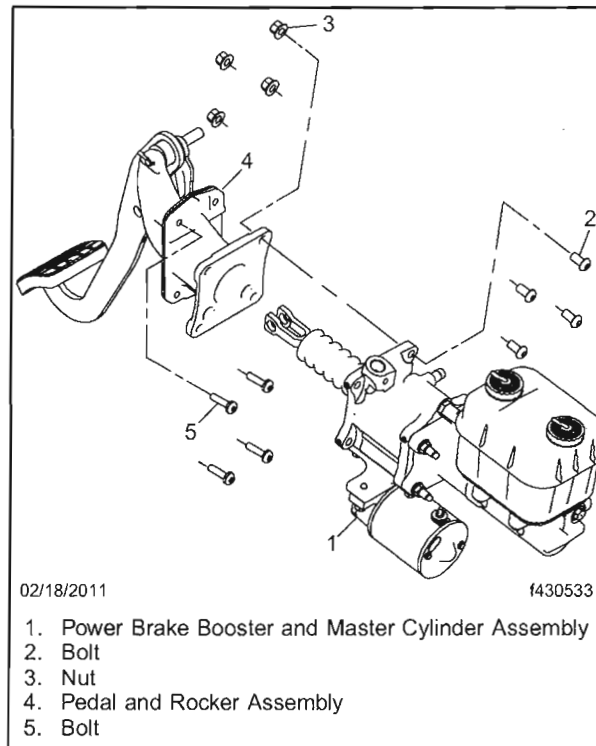

Fig. 4, Removing the Brake Pedal
1. Remove the cotter pin from the brake clevis and remove the clevis pin from the brake pedal. See **Fig. 4**.